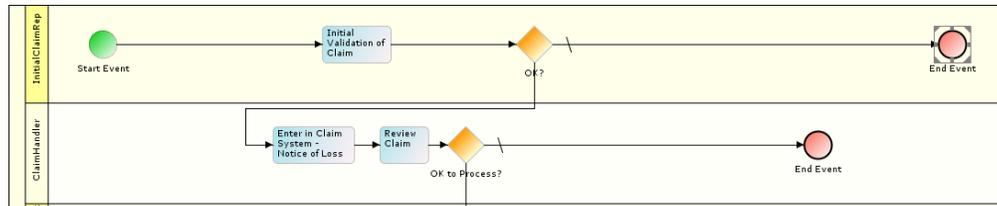

Figure 25: Repositioning Activity Elements and Resizing Swim Lanes
1. Click the **Activity** element that you want to reposition, in the swim lane. Use the desired arrow key to move the activity element in the preferred direction. If you move it upwards or towards the left, then it will not affect the size of the swim lane. However, if you move it towards the right or downwards, then it will automatically resize the swim lane (see Figure 25).